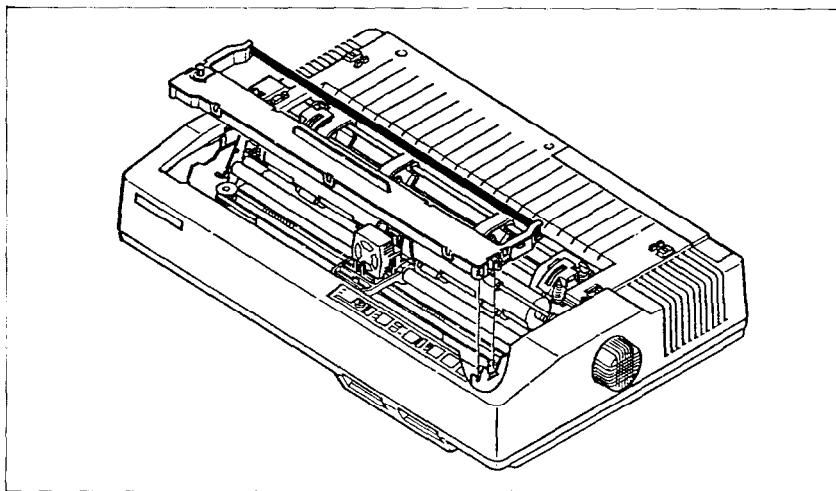

Figure 1-5. Press the cartridge into place until the holding springs snap into place.
4. With the ribbon facing away from you, use the guide holders as a fulcrum, and lightly press the cartridge down until the two holder springs snap shut to hold the cartridge firmly in place. See Figure 1-5.